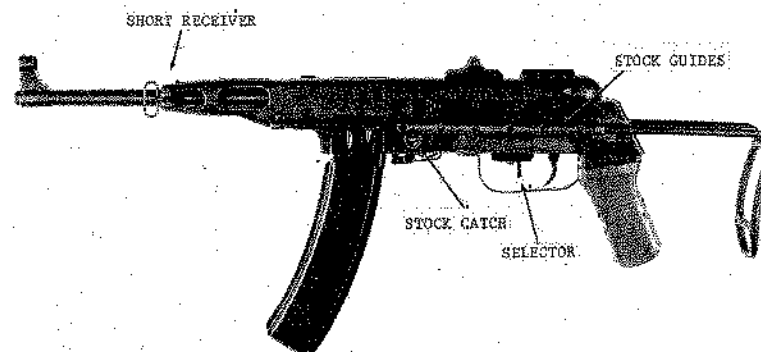

Figure 42. North Vietnamese K-50M submachinegun.
(1) Sling.
(2) Two-section T-handled cleaning rod.
(3) Standard Soviet pattern two compartment oil and cleaning solvent container.
a. The K-50 modified submachinegun (fig 42) is an extensively altered PRC type 50 submachinegun that is used by the Viet Cong in Vietnam. The most obvious changes are the sliding metal butt stock, the short barrel jacket that eliminates the original muzzle brake-compensator, and the wooden pistol grip. The lower receiver has also been reshaped.
The K-50 Modified submachinegun is operated and functions exactly like its parent weapon, the PRC Type 50 submachinegun. See paragraphs 57, 58, and 59 for information. An additional feature, the telescoping stock, is operated by pressing in the stock catch at the front of the guides (fig 42) and sliding the stock to the desired position.